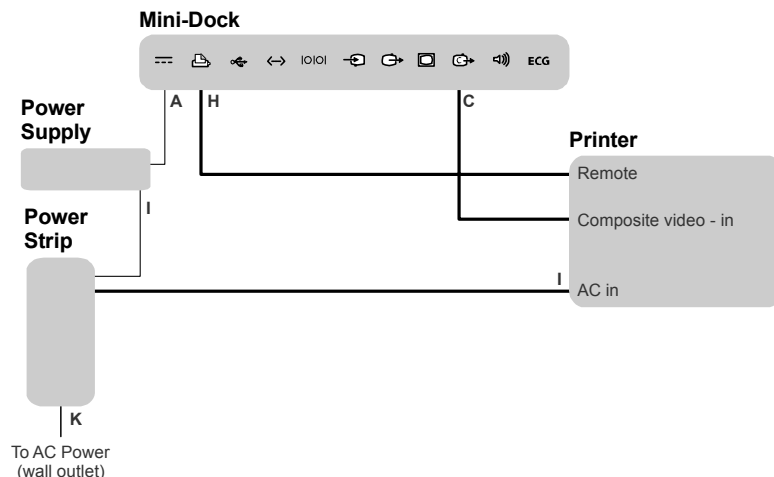

Figure 3 Connectivity of System and a Printer on MDSm
If installing an older black-and-white or color printer, you may need to move padded screws to back holes. 2 Ensure that the pre-routed DC power cord (A) is connected to the mini-dock and that the pre-installed AC power cord (I) is connected to the power strip. 3 Connect the cables. See Figure 3 on page 9 and "Cables, connectors, and mini-dock symbols" on page 14. <ul style="list-style-type: none"> • Pre-routed print control cable (H) • Printer AC power cord (I) • Pre-routed composite video cable (C) 4 Connect system power cord (K) to a hospital-grade electrical outlet. 5 Install the back panel (vents at the top) by sliding panel up and in. |